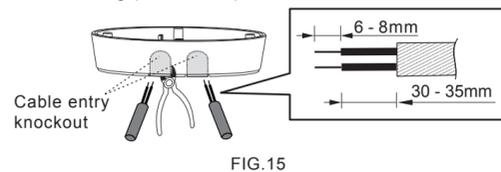

FIG.15
3.4.3.2 To feed AC power cables through the side of enclosure, please use the cutting pliers to break the cable entry knockouts on the side of the enclosure, then insert cables into enclosure and feed through it. Strip off 6 - 8mm of cable sheathing for wiring (See FIG.15).